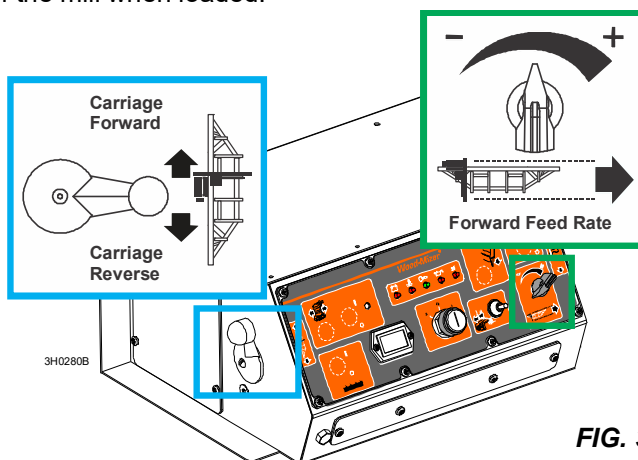

FIG. 3-3
7. Use the carriage forward/reverse switch (left side of control box) to move the cutting head toward the front (hitch end) of the mill. **See Fig. 3-3.**
8.  **CAUTION!** To prevent fender damage, remove fenders before operating sawmill or loading logs. Move the feed control switch (left side of control box) to move the cutting head toward the front end of the mill. **See Fig. 3-3.**